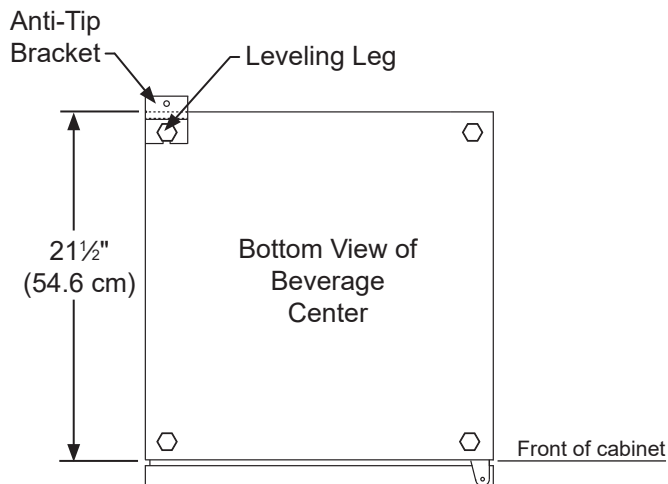

Figure 14
The anti-tip bracket is to be located on the floor in the left or right rear corner of the wine cellar as shown in Figure 14.
1. Begin by pulling out the top drawer. (See Figure 14). Remove screws securing drawer to slides (See Figure 15). Pull drawer forward, lift up and out to clear clips in rear of drawer. Move drawer forward about 1" (2.5 cm) and set down on slides. At the right rear corner of the drawer disconnect the display wire harness (See Figure 14a). Remove the drawer from the unit by lifting up off of the slides. Repeat for bottom drawer but disregard the harness instructions as there is no wiring to the bottom drawer.